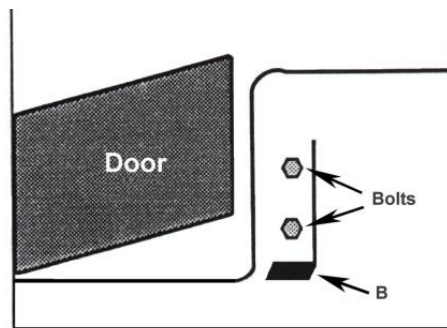

Figure 1
7. Remove two bolts in each lock pillar located behind trim panel, and flatten metal plate B. (see figure 1)